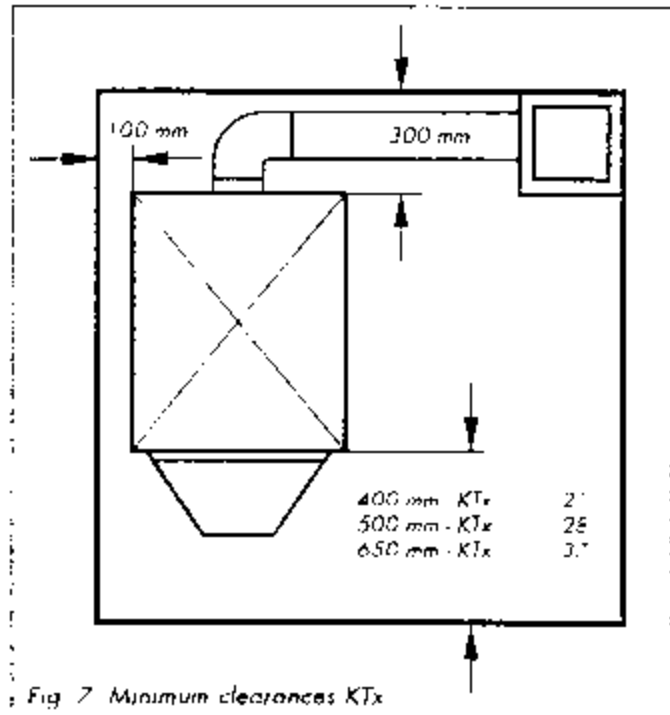

Fig. 7 Minimum clearances KTx
- Observe the minimum clearances at the sides, front and back (Fig. 7).